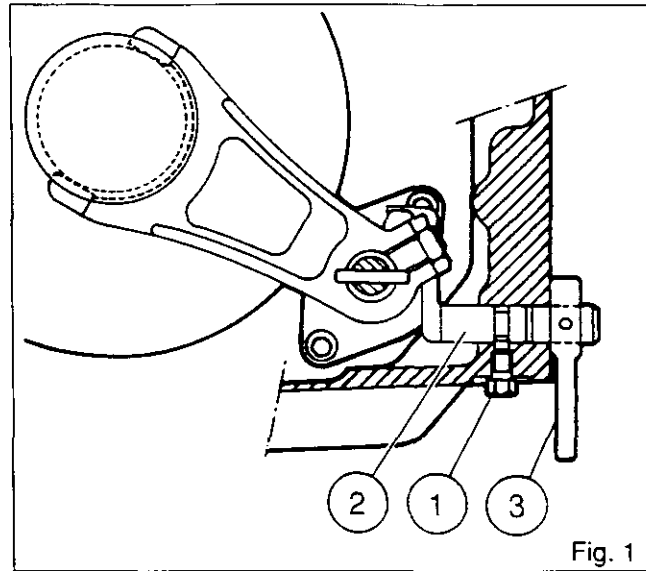

Fig. 1
**Note: The 4 x 2 gearboxes (8-speed) have no A/B fork (4).**
4. Remove the bolt (1), withdraw the rod (2) to disengage the lever from the fork (Fig. 1).
17. Remove the rod (3) (Fig. 1).